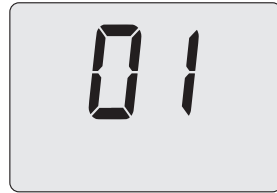

Figure 5.52
- Press 17 (Figure 5.49) to show the value of parameter P05 on the LCD display (Figure 5.52).